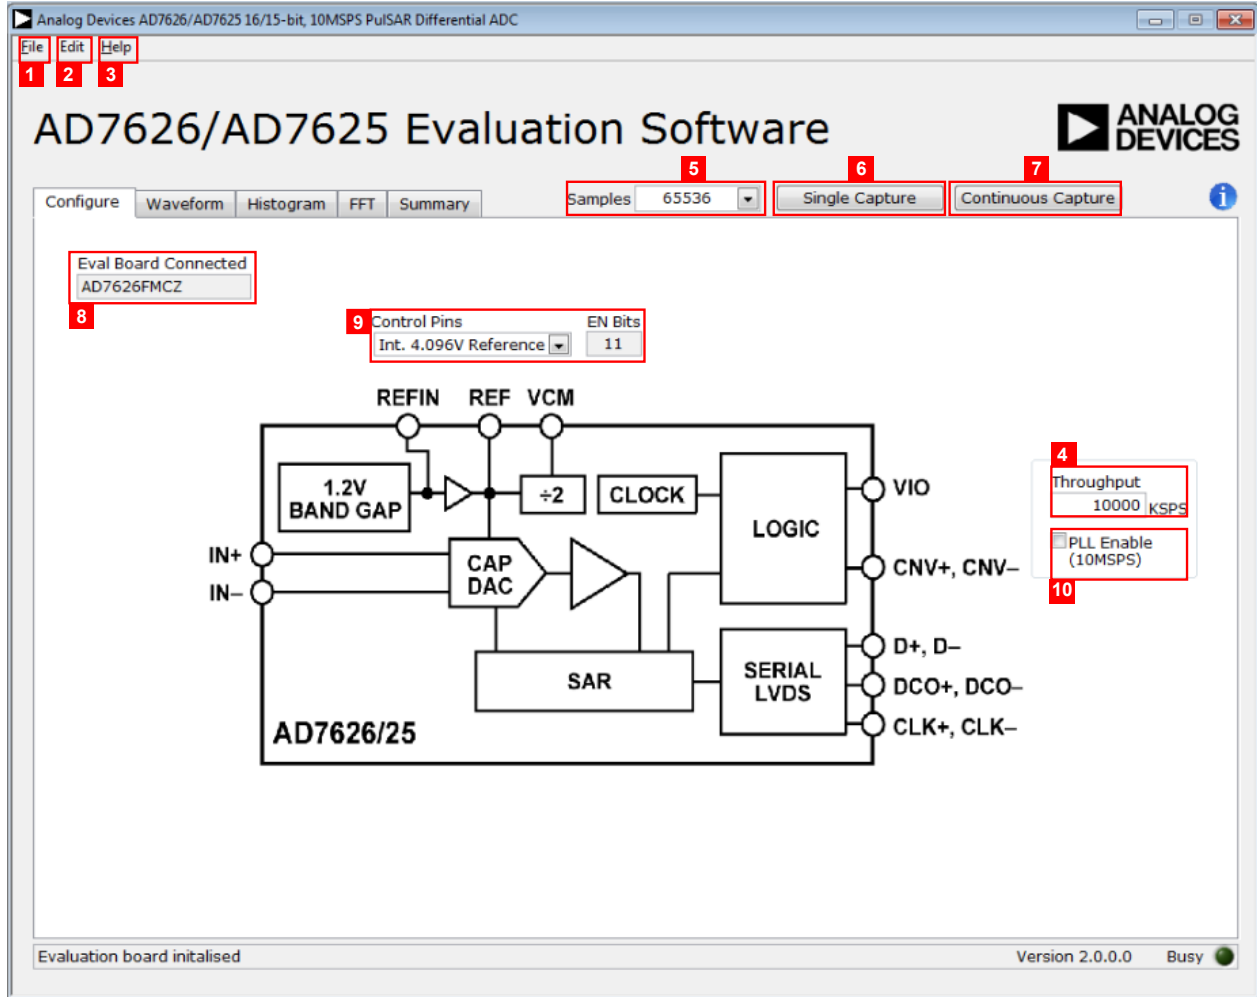

Figure 19. Setup Screen
1. From the **Start** menu, select **Programs>Analog Devices> AD7626_25 Evaluation Software**. The main window of the software then displays (see Figure 19). If the evaluation system is not connected to the USB port via the EVAL-SDP-CH1Z when the software is launched, a connectivity error displays (see Figure 17).
This section describes the full software operation and all windows that appear. When the software is launched, the panel opens and the software searches for hardware connected to the PC. The user software panel launches as shown in Figure 19. The labels listed in this section correspond to the numbered labels in Figure 19.
The **File** menu, labeled 1 in Figure 19, offers the choice to